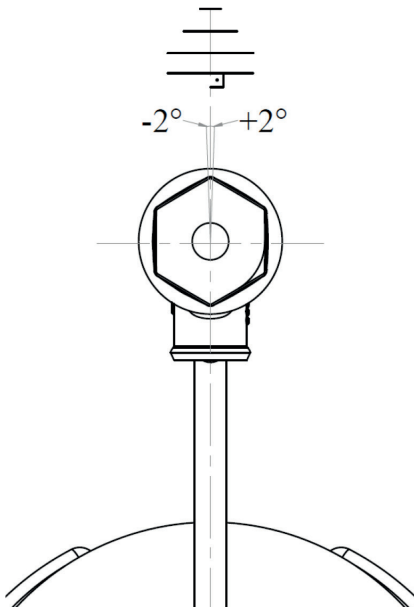

Figure 5
14) 15) There must be a drainage line in the area where the water tank is placed against the danger of flooding the water tank. A suitable pipe must be attached to the float outlet and this pipe must come into contact with the water. In this way, the water jet effect is largely prevented. There should be a maximum deviation of 2 degrees on the body during assembly. (Figure 5)